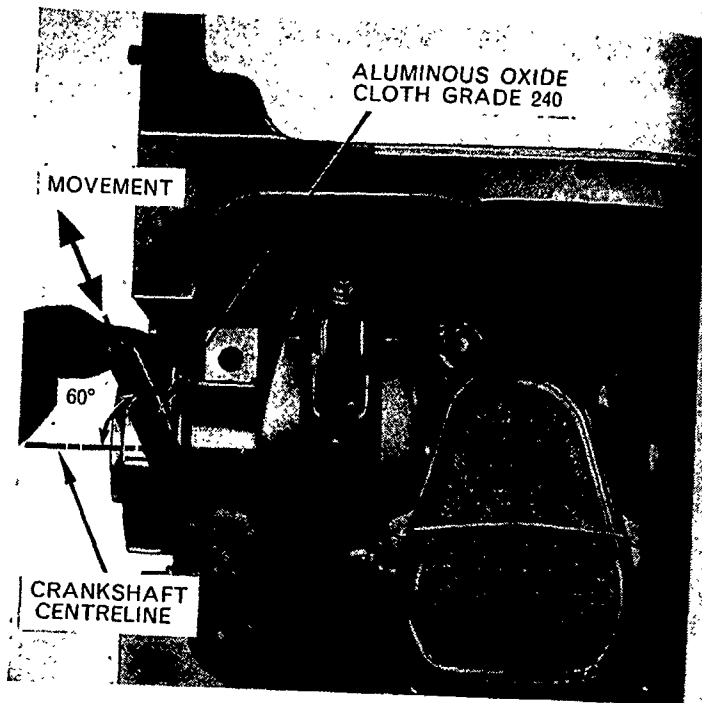

Figure 70
8. The crankshaft rear oil seal journal can be scrolled, working from underneath the engine, or with the engine inverted. Use a $\frac{3}{4}$ in. wide strip of aluminium oxide cloth, Grade 240, to put a reverse scroll on the crankshaft rear oil seal journal. Hold the cloth as shown in Figure 70 and work on the same area until a high polish is obtained on the journal (definite lines should not be apparent to the naked eye). After finishing the accessible area, rotate the crankshaft a little at a time until the complete circumference of the journal has been worked. The lines of the finished job should give the effect of a very fine right-handed thread, and each rubbing should overlap the other.
NOTE: It is important that the cloth is held as near as possible to the angle illustrated in Figure 70, otherwise the lines will tend to follow around the circumference rather than across the journal and defeat the object of the scroll.